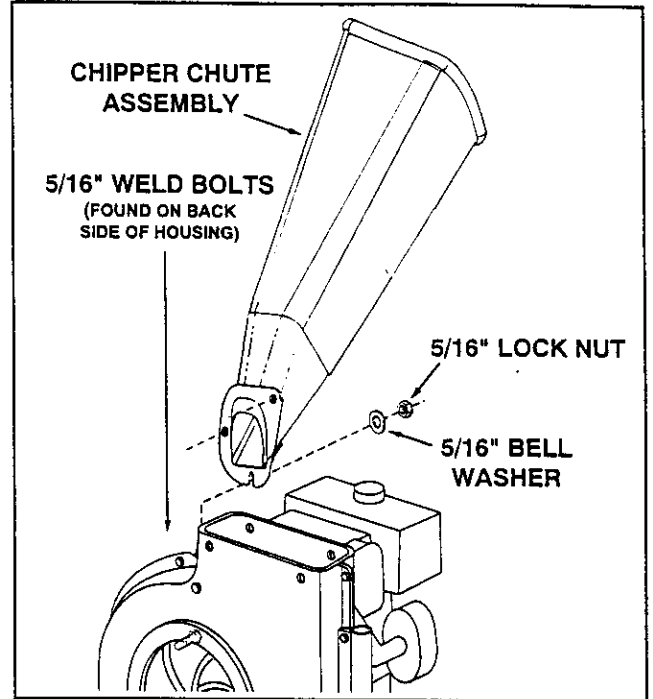

FIGURE 22
- Mount the chipper chute assembly onto the three weld bolts located on the back side of the blower housing assembly. Fasten with three 5/16" bell washers (cupped side against chute assembly) and three 5/16" lock nuts. **Tighten securely.** See figure 22.